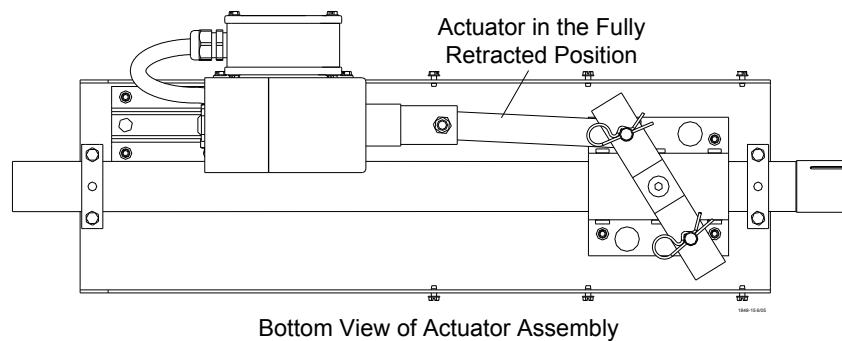

Figure 69. Actuator in fully retracted (open) position
3. Using the first pan away from the actuator, push the inner cone to the open position. Place the actuator wire between the pivot bracket and pivot clip then tighten the 10-24 screw, **Figure 69**.